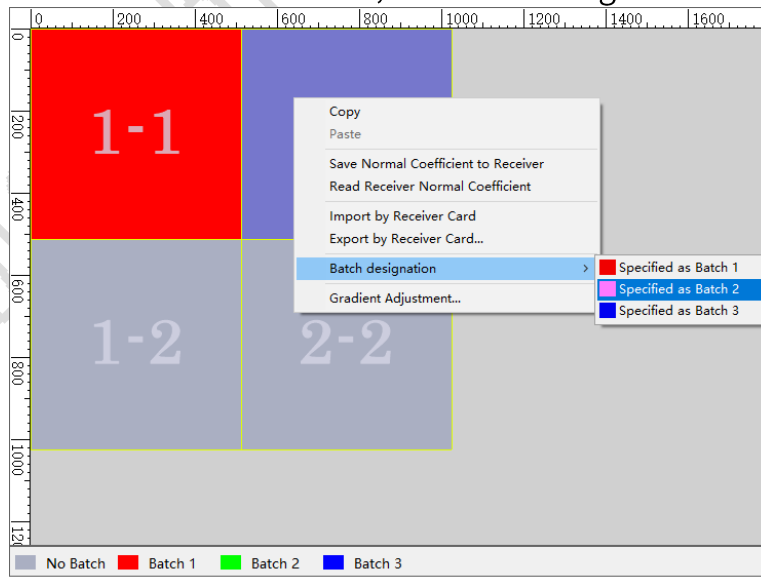

Fig 8.3.7 Batch designation
- Step 2: Close the Batch Adjustment Settings dialog box. Then, select a receiver card, right-click and select **Batch designation** to perform batch designation on the selected card, as shown in Figure 8.3.7.